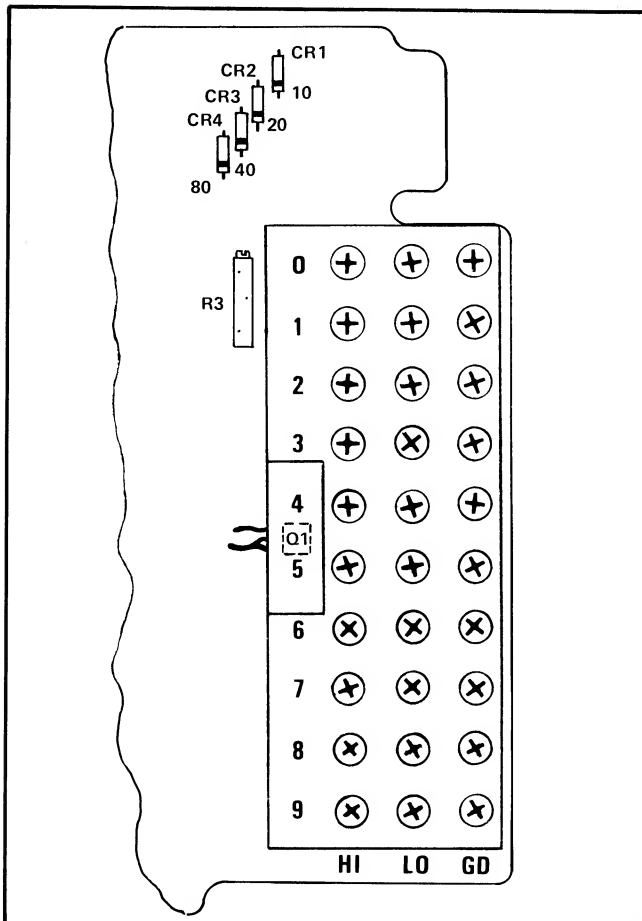

Figure 6-13. THERMOCOUPLE CONNECTIONS AND CALIBRATION ADJUSTMENT LOCATIONS
- b. Slide the lower pcb out of the 2150A case and make the thermocouple connections (see Figure 6-13.)